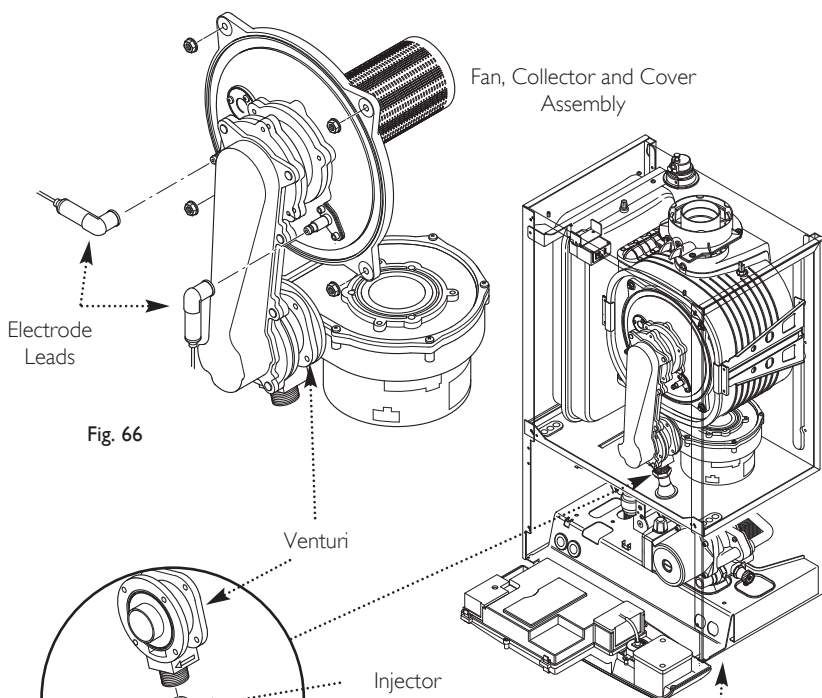

Fig. 66
7. Disconnect the electrode leads, noting their position, and the fan electrical plugs (Fig. 66).